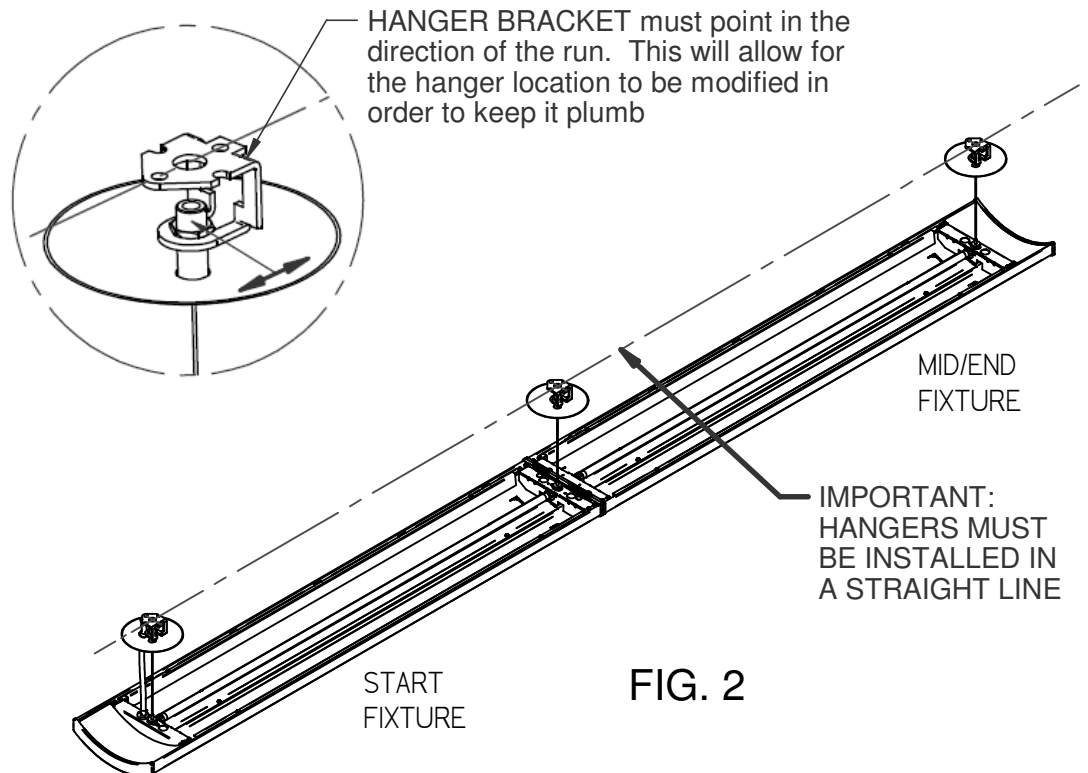

FIG. 2
1. Install HANGER BRACKETS into ceiling at the required distances. Mounting distances are listed in Table A. HANGER BRACKETS MUST BE INSTALLED IN A STRAIGHT LINE. (see FIG. 2)